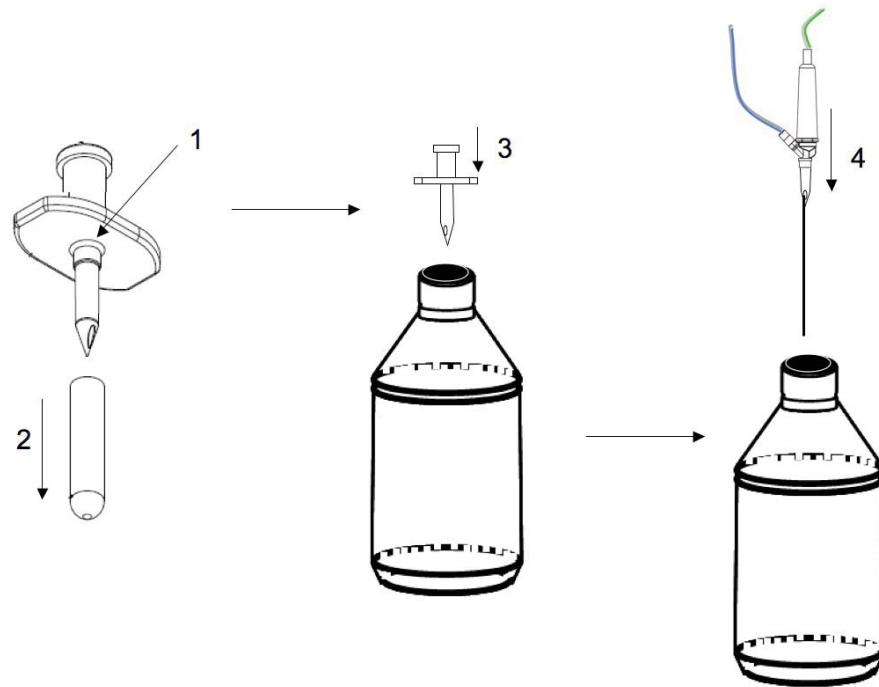

Figure 4.5. AFI Setup instructions
- n. Spike and hang the BSS bottle on the automated I/V pole or the Zero Level hanger if using AFI. Squeeze and release the drip chamber until it is half filled with solution. (For AFI setup, use the spiking tool provided to puncture the rubber stopper on the bottle before inserting the metal cannula into the bottle.) (Circulating Nurse) See Figure 4.5.